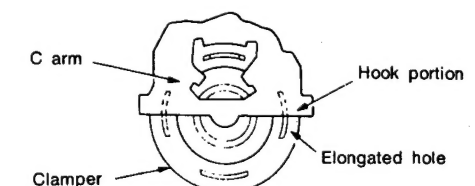

Fig. 6
## (7) Replacement of the clasper (Fig. 6)